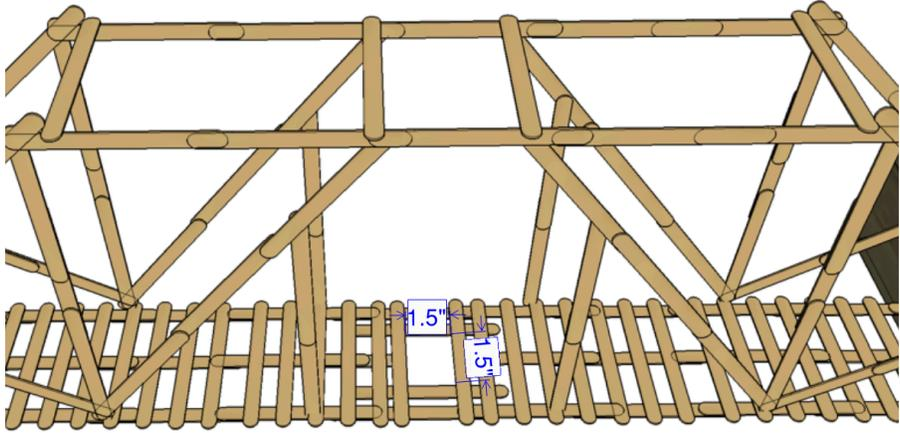

Figure 4 - Center 1.5" x 1.5" Opening Requirement (not to scale)
- Bridges must have a clear 1.5-inch x 1.5-inch opening along its center from top to bottom. Popsicle sticks can be cut only for this opening. Refer to Figure 4 below.